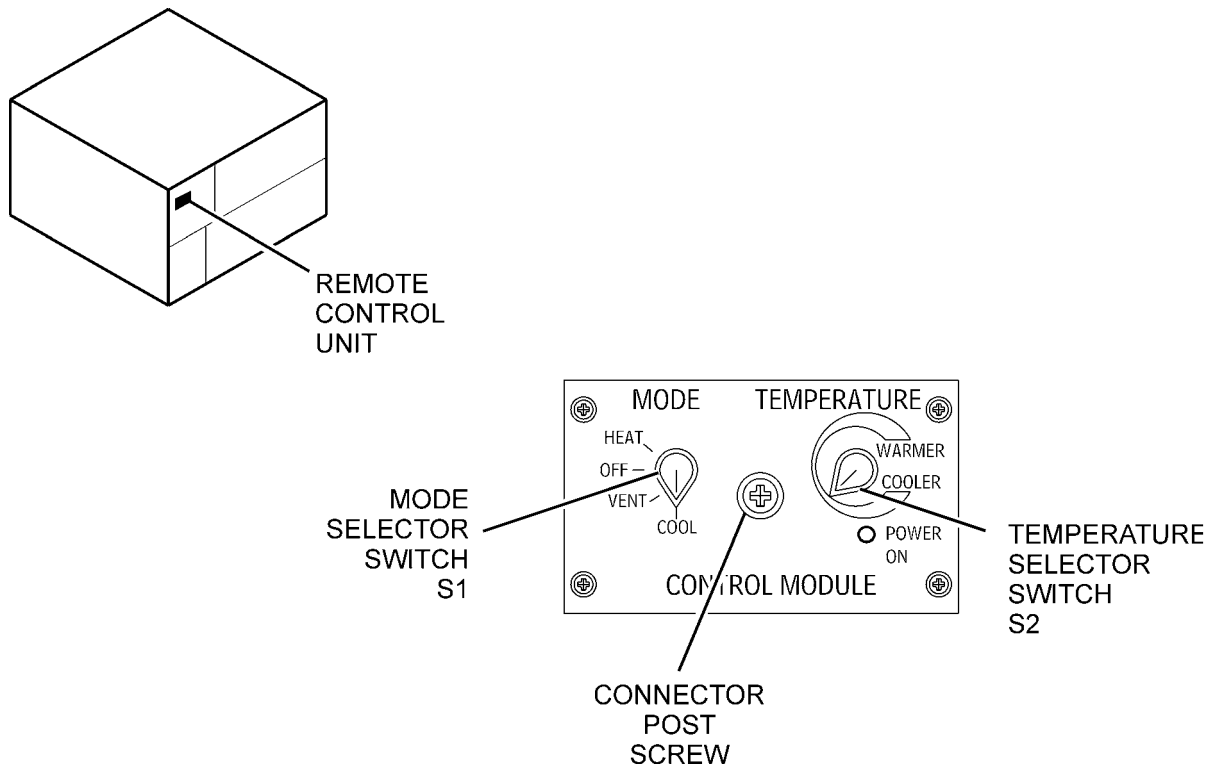

Figure 1. Control Module. Front Panel
1. Loosen connector post screw counterclockwise until remote control module is freed from unit. See figure 1.